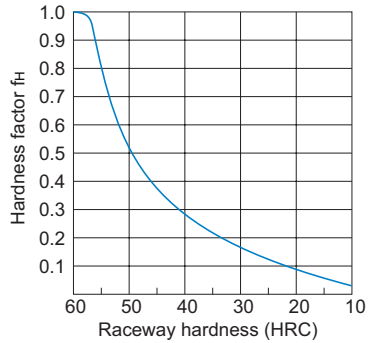

Fig.11 Hardness Factor (f_H)
- C : Basic dynamic load rating (N)
- P_C : Calculated load (N)
- f_H : Hardness factor (see Fig.11 on A-101)